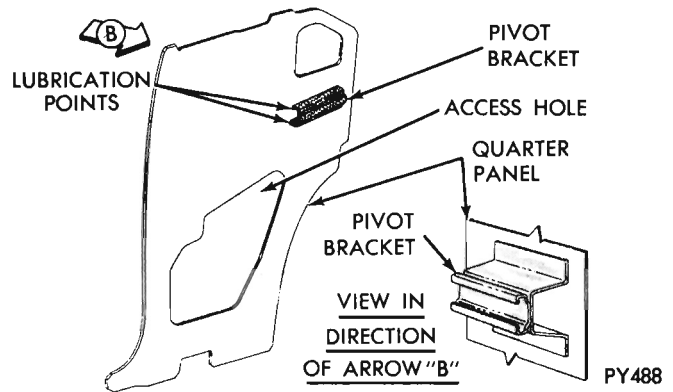

Fig. 10 - Pivot Bracket-Quarter Window
- (1) Apply lubricant to pivot bracket quarter window.
- (2) Install regulator (Electric or Manual).
- (3) Install lower support.
- (4) Assemble front track, adjust studs, center slide and up-stop.
- (5) Install front track quarter window.
- (6) Assemble slide and up-stop to quarter glass and lower frame assembly.
- (7) Install quarter glass and lower frame assembly.
- (8) Install rear run.
- (9) Install down-stop and bumper to front track (Electric).
- (10) Install up-stop.
**PIVOT BRACKET QUARTER WINDOW (Fig. 10)**